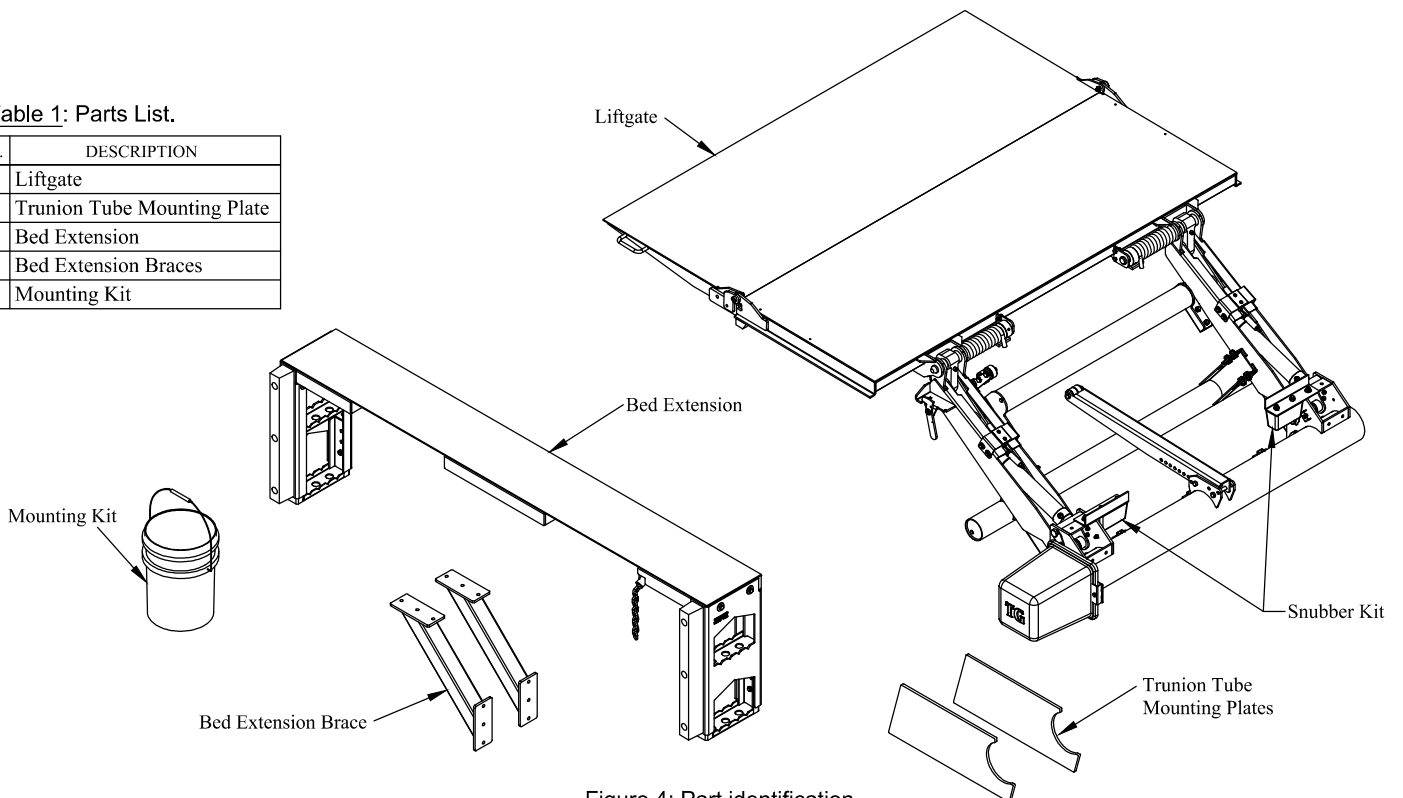

Figure 4: Part identification.
- 3. Remove** the snubber kit parts from the liftgate frame (Figure 4).
- 4. Verify** parts list (Table 1) and inspect for missing or damaged parts (Figure 4).